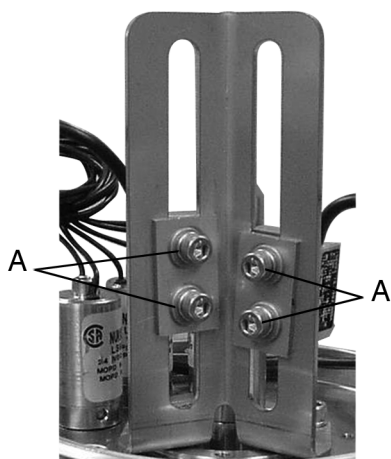

Figure 15 - Switch Adjustment
1. Raise the stem to open, then loosen the cap screws holding the switch blocks (Figure 15, item A) with a 9/64" allen wrench and slide the switches to set the distance between the switches and the stem shaft at 0.040" (1 mm). If using a micro switch, place a 0.020" feeler gauge between the roller and the small diameter of the stem. Adjust the switch toward the stem until a "click" is heard.
2. Hand-tighten the cap screws (Figure 15, item A) to hold the switch position.